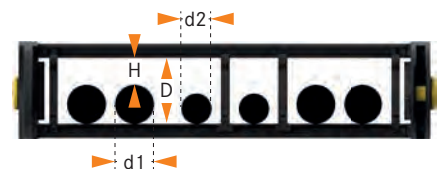

Fig. 3
**3)** If several cables/hoses are used, it is preferable to avoid them rubbing each other by placing them in an isolated space and using separators to separate them. If this is not possible, verify that the internal space does not allow cables/hoses to be twisted.  $H < d2$  or, for any couples of utilities not separated each other,  $\rightarrow d1 + d2 > D$  (**Fig. 3**)